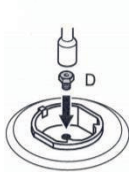

Figure 12.2
Fix the injector (D) to be converted as shown in the Figure 12.2 (see table 1).